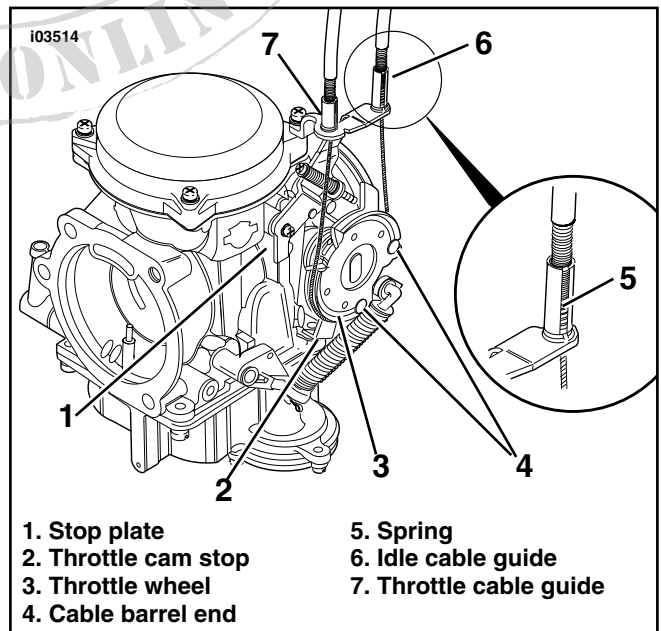

Figure 5. Throttle Cable Assembly
- See Figure 5. Remove the cables at the carburetor. Using slots, remove the cable barrel ends from the holes in the throttle wheel and release the cable housings from the guides on the carburetor cable bracket.
43. Refer to Figure 5. Install the idle cable housing and spring into the longer cable guide on the carburetor cable bracket. Drawing the idle cable downward, fit the barrel end into the hole in the throttle wheel (farthest from the cam stop).